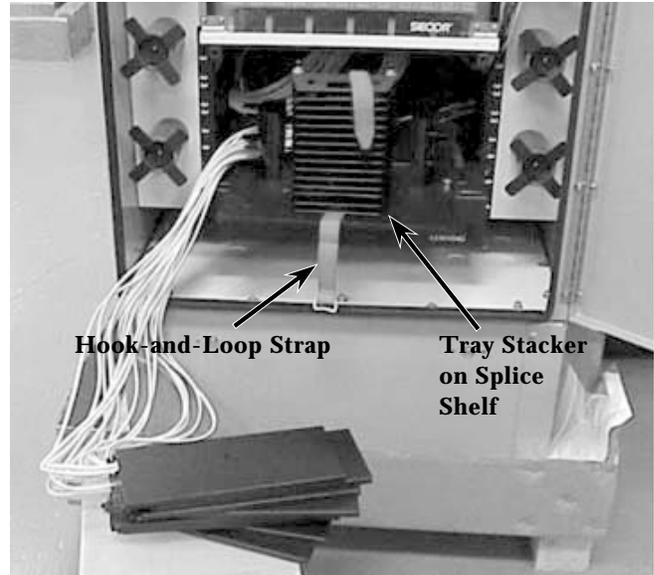

Figure 8
- Step 5** Repeat steps 2 through 4 for the remaining splice trays (Figure 8).